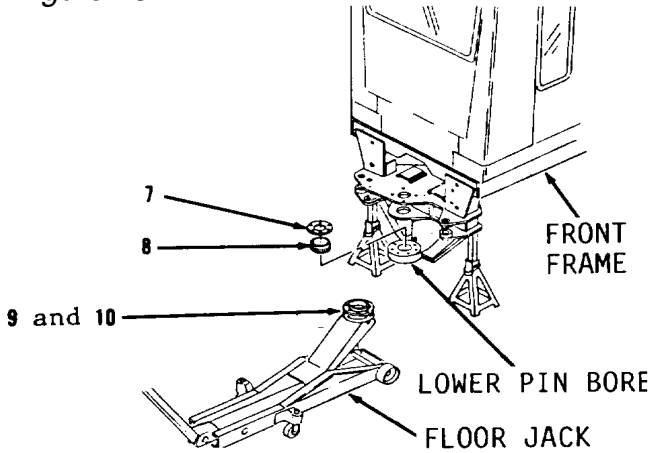
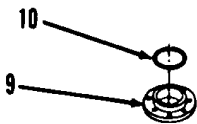
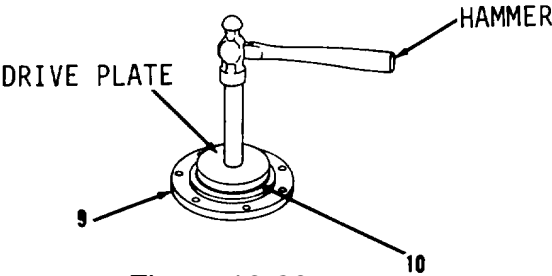

Figure 16-25.
Figure 16-26.
Figure 16-29.
4. Remove shim(s) (7) and bearing (8, Figure 16-25). Tie shim(s) (7) together and tag for identification.
5. Carefully lower floor jack and remove items 9 and 10 as an assembly from bottom of lower pin bore.
6. Remove and discard seal (10) from cap (9, Figure 16-26).
- 7. Using clean grease, lubricate new seal (10, Figure 16-29) and position with lip facing down on cap (9).
- 8. Using suitable drive plates and hammer, install new seal (10) on cap (9).
- 9. Install bearing (8) in items 10 and 9 as an assembly (Figure 16-25) and position on a suitable floor jack positioned under lower pin bore of front frame.